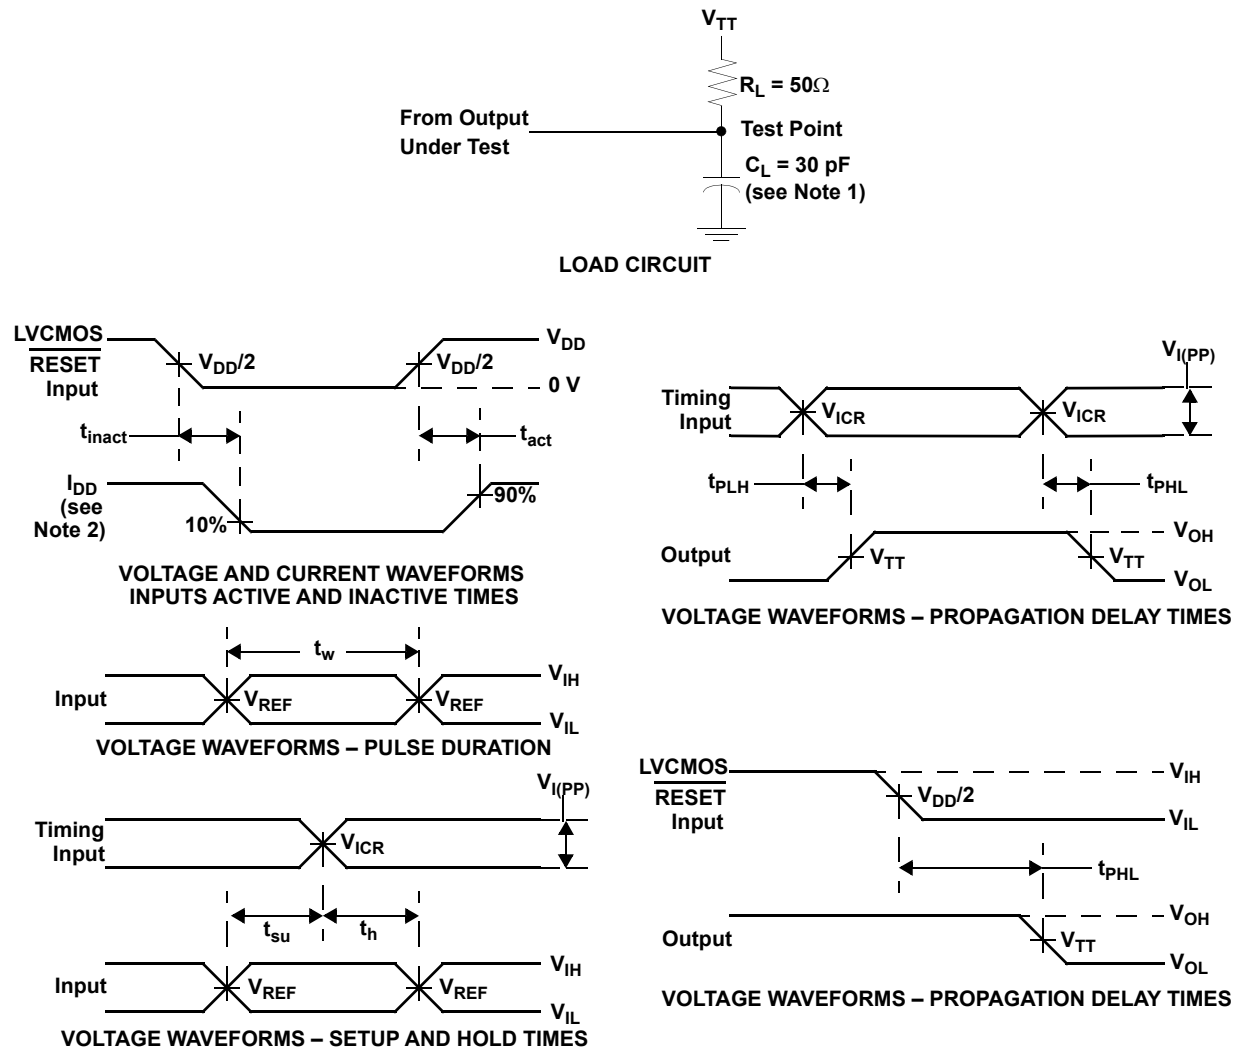

Figure 3 — Parameter Measurement Information
**Table 8 — Switching Characteristics over Recommended Operating Free-air Temperature Range (unless otherwise noted) (see Figure 3)**
**Table 9 — Switching Characteristics over Recommended Operating Free-air Temperature Range (unless otherwise noted) (see Figure 3)**